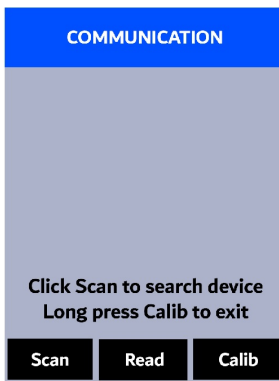

Figure 21.
3. Press **Comm** (**>**) to launch the **COMMUNICATION** screen (Figure 21).